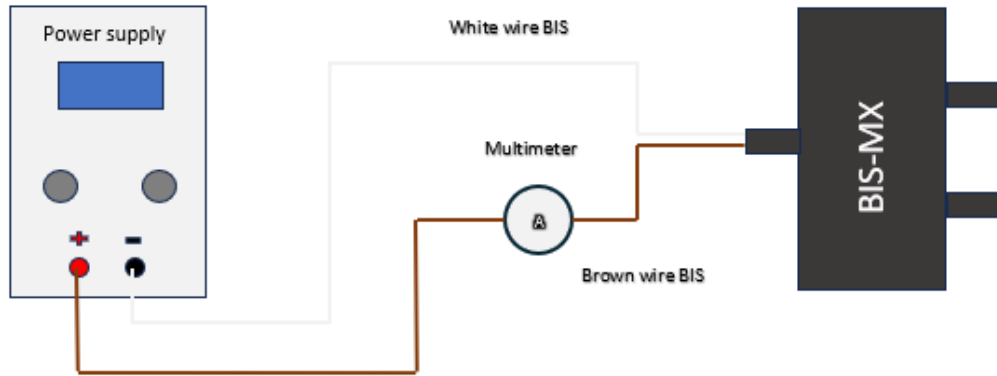

Fig. 2 Connection Diagram
3. Assemble the connection circuit according to "Fig. 2 Connection Diagram".